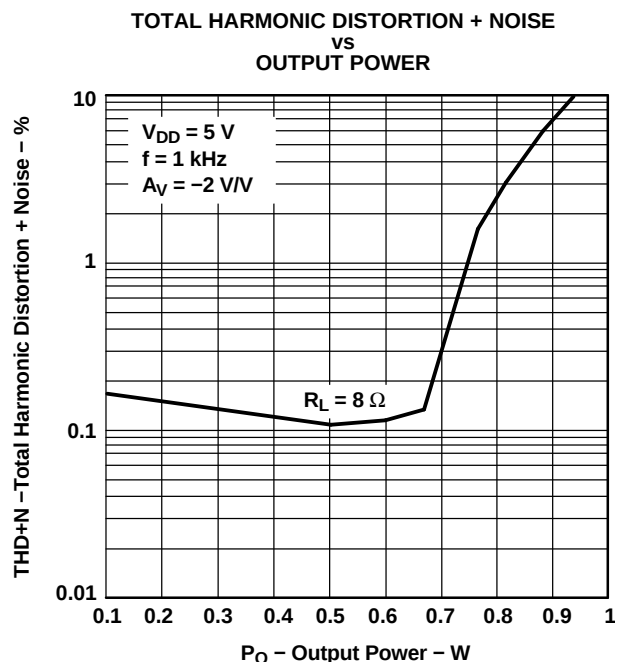

Figure 13.
| $P_O$ Output power                           | THD = 0.5%, See Figure 13                                                      |     | 700 (1) |     | mW                 |